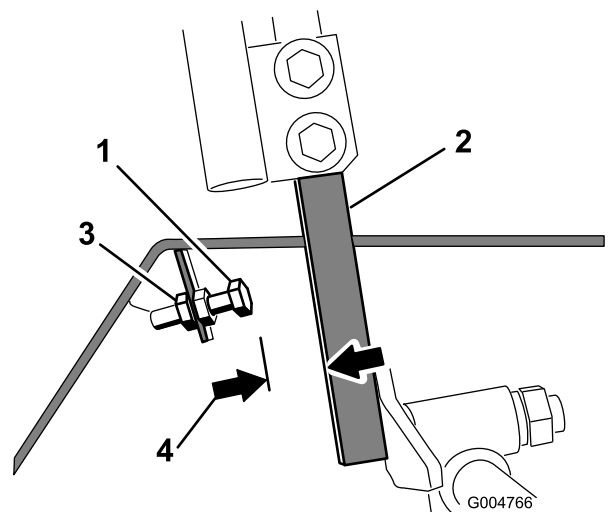

Figure 67
4. Loosen the jam nut on the stop bolt for one of the control levers (Figure 67).